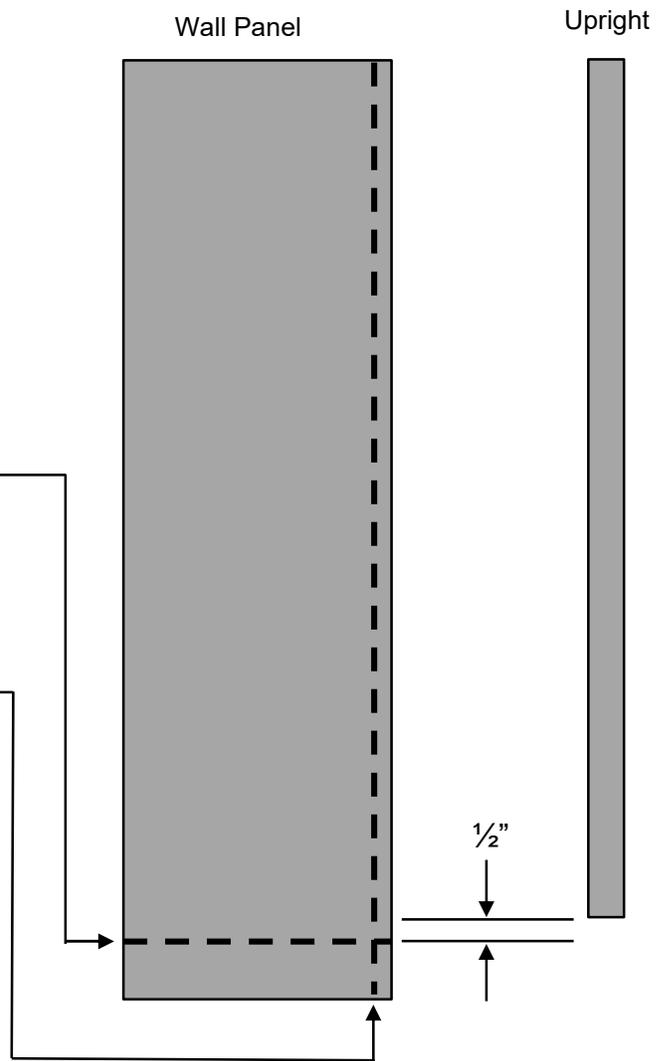

Figure 19
2. The height should be $\frac{1}{2}$ " taller than the Upright. (See Figure 19). The Wall Panel should rest on the base deck when assembled.
3. **FOR END WALL PANELS ONLY** If the far right or far left Upright was moved inward 1", then cut 1" off the side of that Wall Panel (See Figure 19).